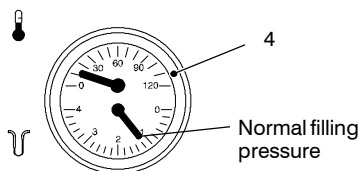

Fig. 2.2
Ensure that the c.h. circuit is regularly filled with water (even if the boiler is only used for d.h.w. supply) checking that the pressure indicated on the temperature and pressure gauge 4 is not lower than that shown in Fig. 2.2.
If the pressure reading on the pressure gauge is below that shown in Fig. 2.2, then the system will require topping up. A filling loop is normally provided by the Installer for this purpose.
- 2 Open the valves of the filling loop and watch the gauge until it reaches normal filling pressure as shown in Fig. 2.2.